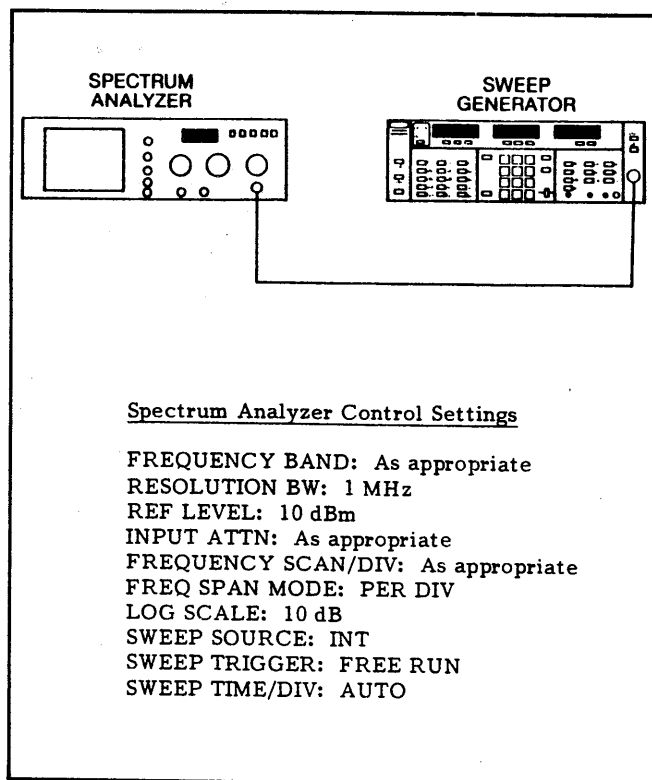

Figure 4-15. Test Equipment Setup for RF Output Signal Tests
1. Connect the test equipment as shown in Figure 4-15 and turn the equipment on.